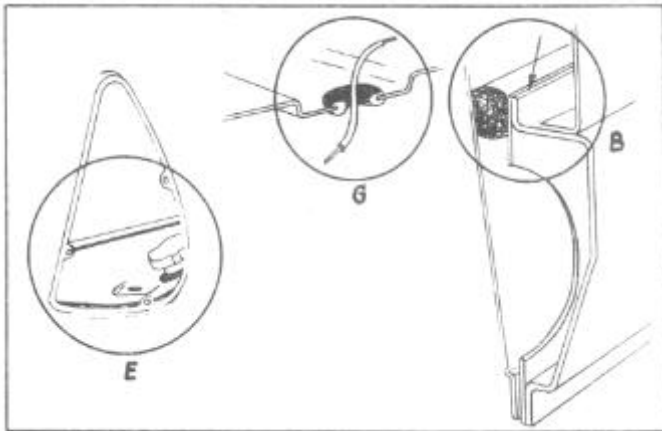

FIGURE 133
**NOTE: The rear end of the rear fender seal is left loose and held up while the rear fender is installed. It is then coated on the under side with rubber cement and pushed down to seal onto the fender flange. If the rear end of the rubber seal is not down in place, it should be sealed with body sealer to prevent dust leakage at this point. The arrow in insert (B), Figure 133, shows the upper flange of**